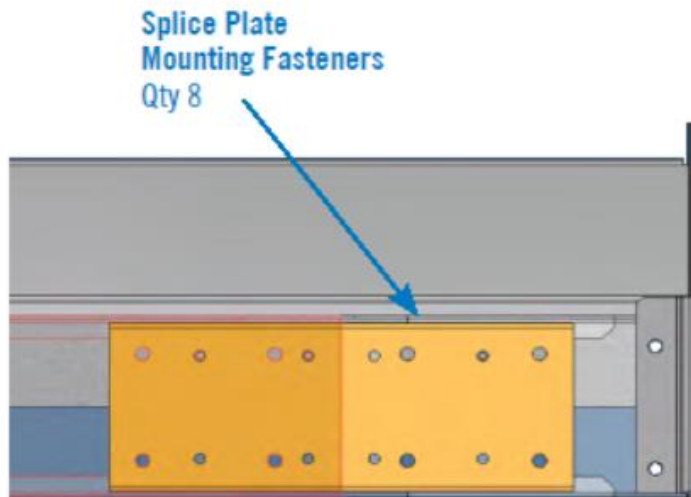
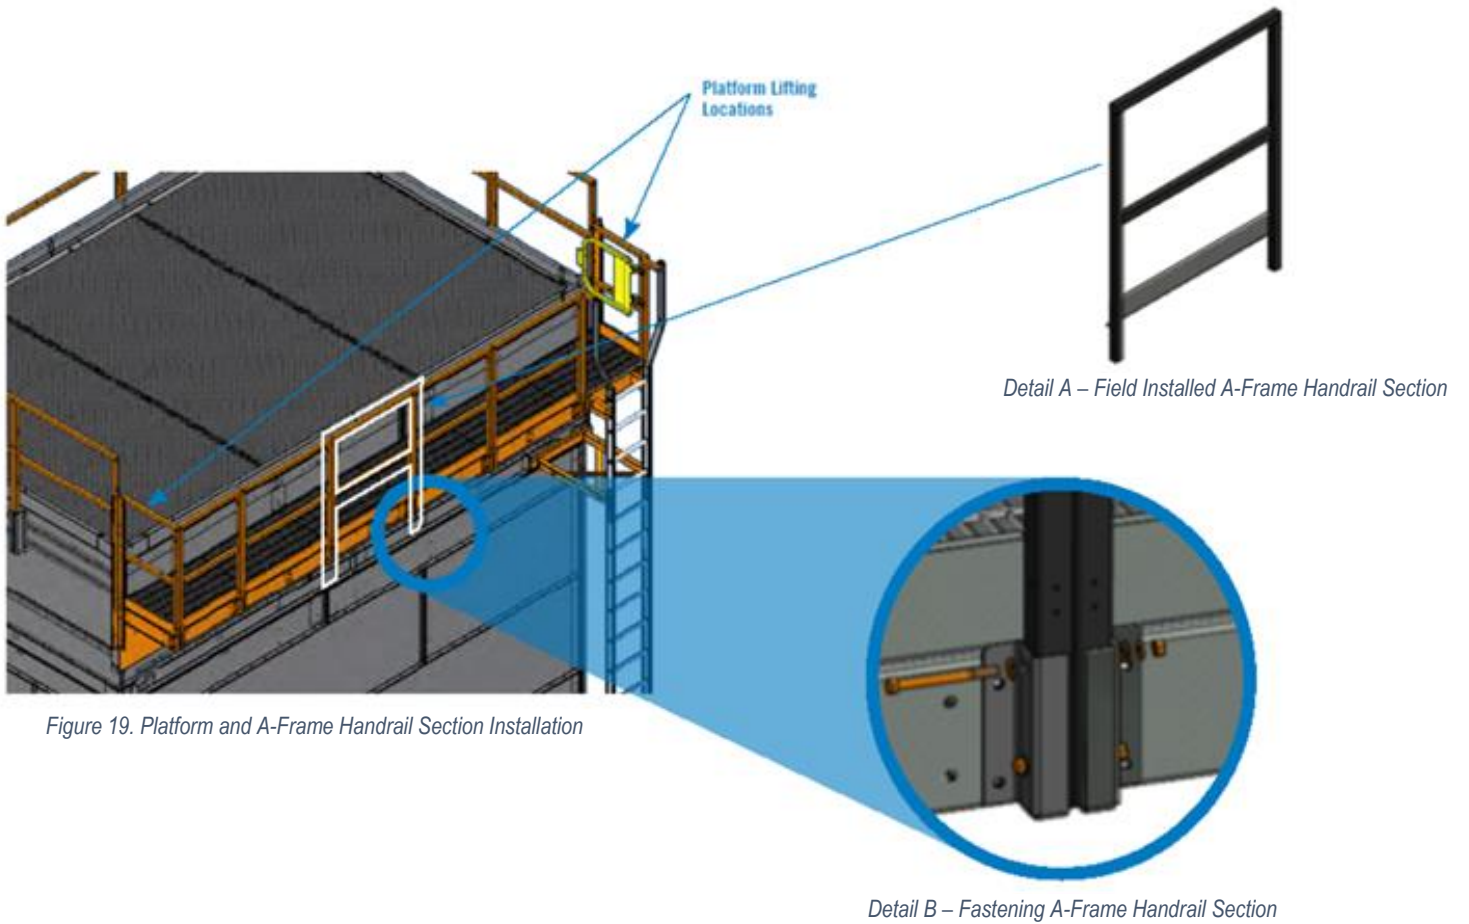

Figure 18. Outside beam splice plate mounting fastener locations
Figure 19. Platform and A-Frame Handrail Section Installation
5. Slide the two splice plates into mounting positions. Secure with provided hardware. See **Figure 18**, **Figure 19** and **Figure 20**.